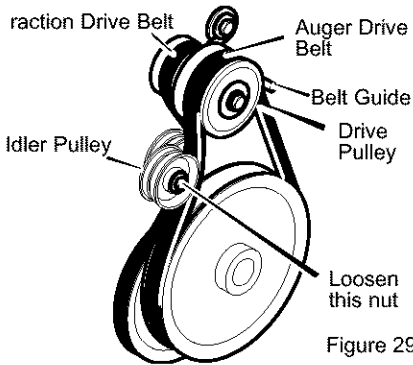

Figure 29
3. Loosen the **nut** on the **idler pulley** and move the pulley toward the belt about 1/8". See Figure 29.
6. Loosen the **belt guide**. Pull the **belt guide** away from the **auger drive pulley**. See Figure 29.